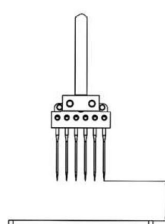

图13 (Fig.13)
- 1.当针杆上升至最高点时，调整针尖与针板面的距离为 $13 \pm 0.5\text{mm}$ 。(图 13)
- 1.Needle tip should be $13 \pm 0.5\text{mm}$ height from Needle plate when Needle Bar mores to its top position. (Fig.13)